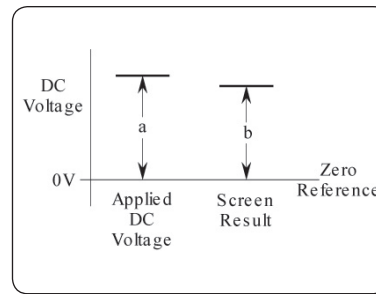
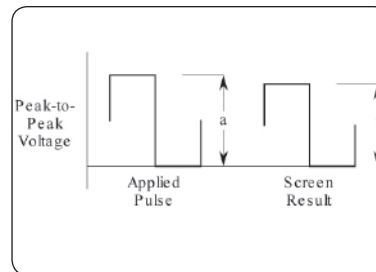

Fig. 1.2 DC voltage – gain.
Fig. 1.3 LF square wave – gain. The peak-to-peak value shown on the screen (b) is compared with the known value (a): $b \div a = \text{Gain at 1 KHz}$.
- i. With dc coupling, either a dc signal (Fig. 1.2 – includes offset) or a square wave (Fig. 1.3 – can be manipulated to remove the offset) is injected, and the channel's response is measured against graticule divisions or cursor readings. All Fluke scope calibrators provide dc voltage and 1 kHz square wave outputs for testing the gain and offset of dc coupled amplifiers.